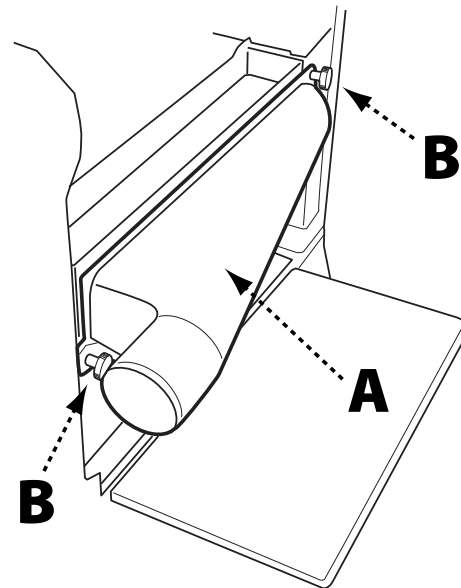

FIGURE 2
### Refer to Figure 2
1. Remove the dust chute by unscrewing the two lock knobs shown in Figure 2.